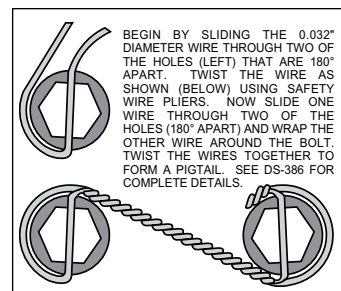

Figure 3. Safety Wire Diagram
- Orient the rotor (5) and the hat (6) as shown in Figure 1 and Photo 3. Attach rotor to hat using bolts (7) and washers (8). Apply red *Loctite*® 271 to the bolt threads and torque to 155 **in-lb** using a criss-cross pattern. For an added measure of security, the bolts may be safety wired using standard 0.032 inch diameter stainless steel safety wire as shown in Figure 3. Refer to Wilwood's data sheet DS-386 (available at www.wilwood.com/Pdf/DataSheets/ds386.pdf) for complete safety wire installation instructions.